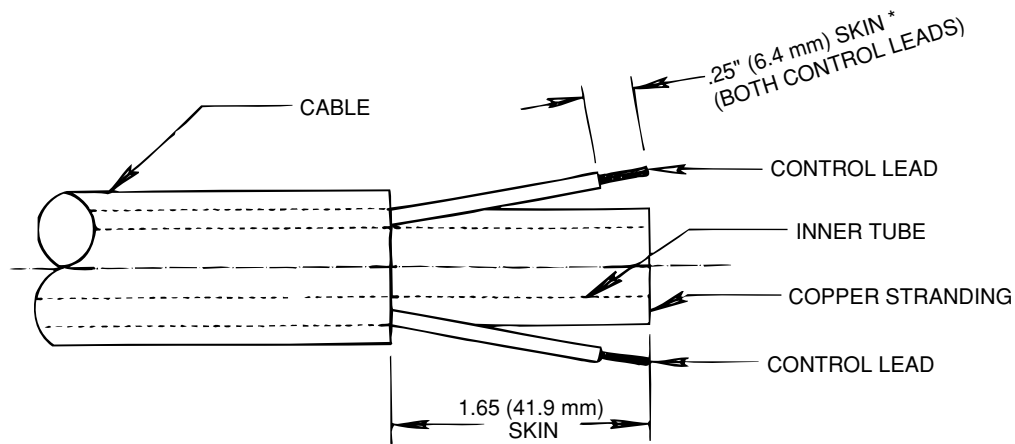

Figure 2
- f. Cut off the damaged section of cable and strip off the outer jacket as shown in Figure 2. Be careful not to cut the insulation on the control wires while stripping jacket. Strip the red and white control leads 1/4 inch (6.4 mm) from the end and crimp a new S19492-2 terminal to each lead.
- e. Cut off the damaged section of cable and strip off the outer jacket as shown in Figure 2. Be careful not to cut the insulation on the control wires while stripping jacket. Strip the red and white control leads 1/4 inch (6.4 mm) from the end and crimp a new S19492-1 terminal to each lead.
- g) Cut off the damaged section of cable and strip off the outer jacket as shown in Figure 2. Be careful not to cut the insulation on the control wires while stripping the jacket. Strip the red and white control leads 3/8 inch (9.5 mm) from the end.